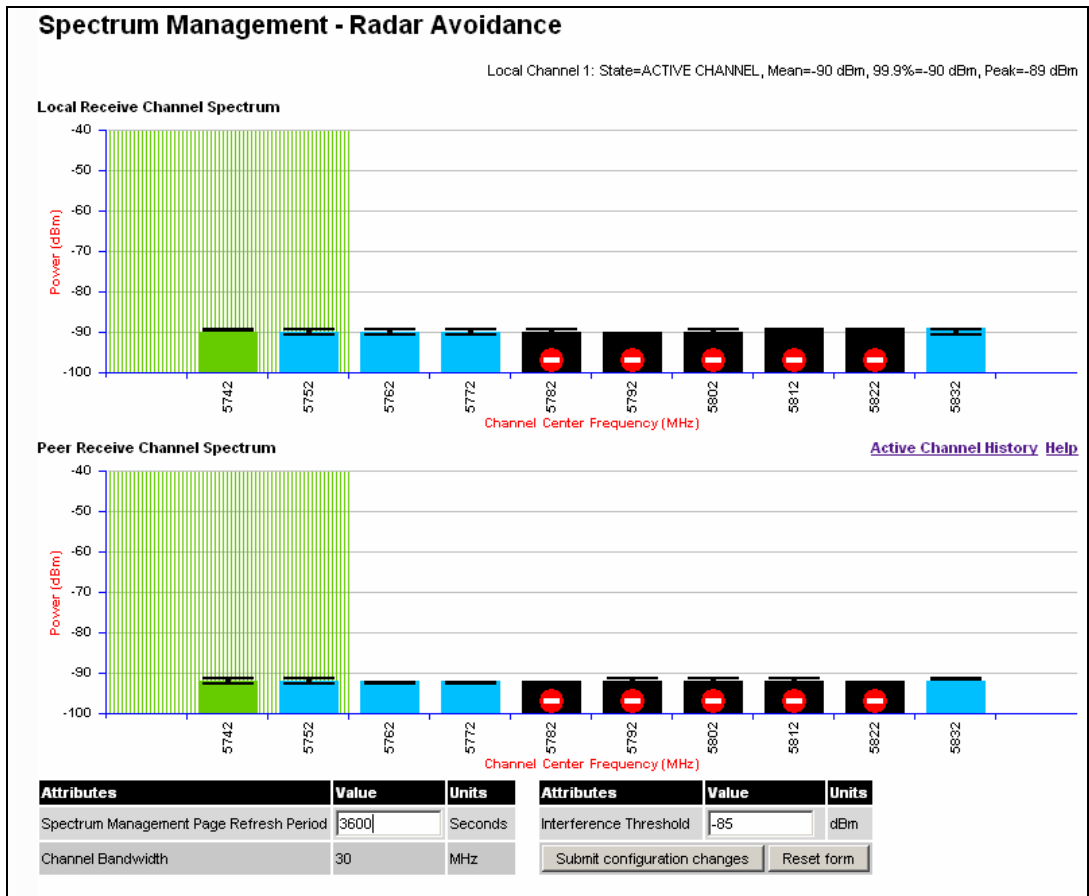
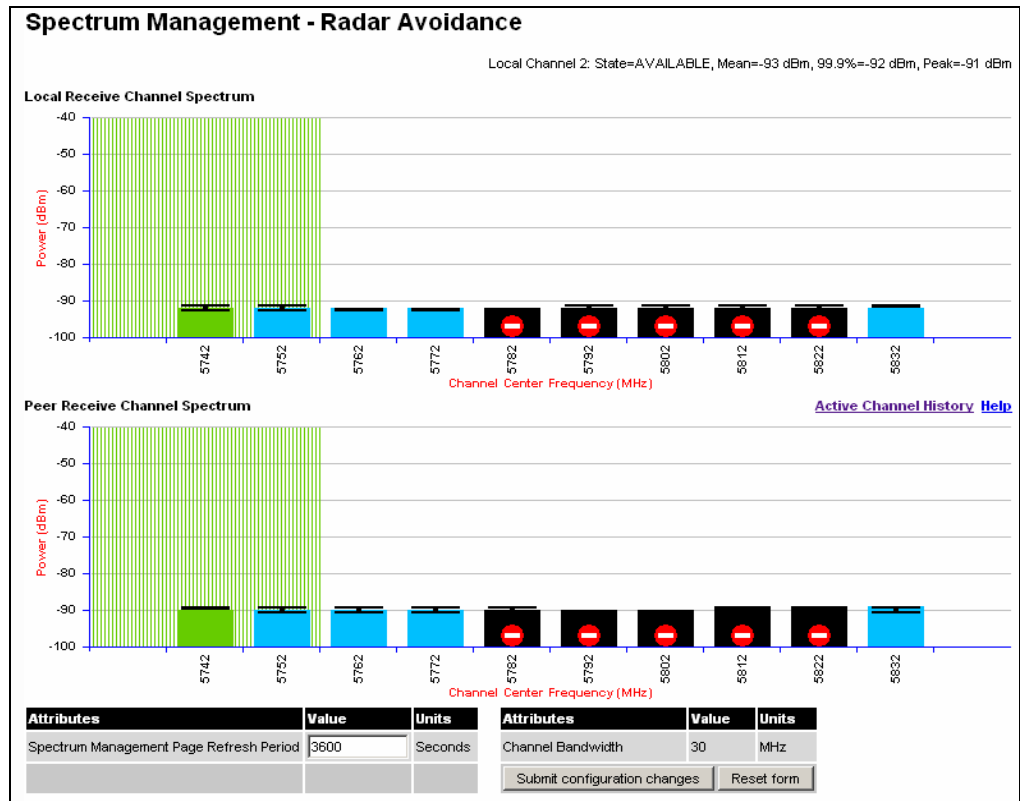

Figure 80 - Spectrum Management Master Screen With Operational Restrictions
Figure 81 - Spectrum Management Slave Screen With Operational Restrictions
- The words “Radar Avoidance” are appended to the “Spectrum Management” title at the top of the screen. See Figure 80 and Figure 81.
- The only controls available to the master are the Interference Threshold attribute. This has no effect on the operation of the wireless link and will only affect the generation of the channel spectrum graphics. See Figure 80.
- All channels marked with a 'no entry' symbol with their associated statistics colored black are the prohibited channels. See Figure 80 and Figure 81. These channels are never used to host the wireless link, but CAC measurements are still taken so that adjacent channel biases can be calculated correctly and so the user can see if other equipment is in use.